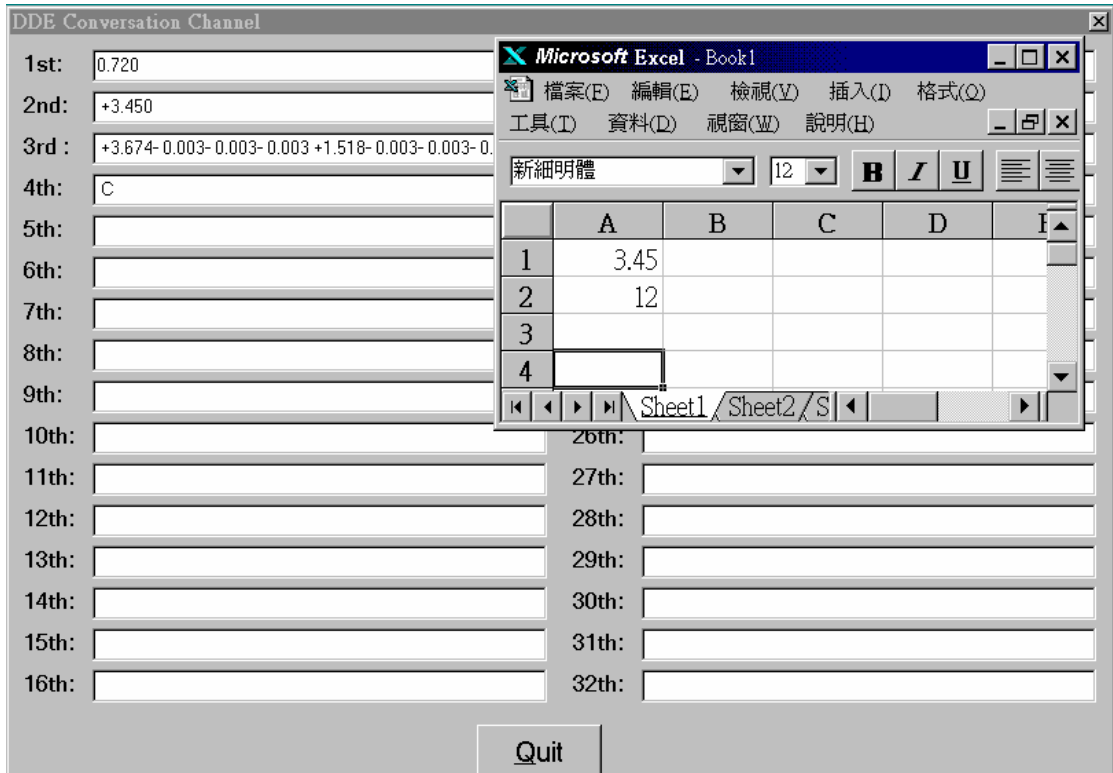

Fig 3-20.
Step 4: Trying to change the value of A1 and A2 cell of Excel, then the value in second and fourth conversation channel vary according to the value in A1 and A2 cell of Excel as shown in Fig 3-20.